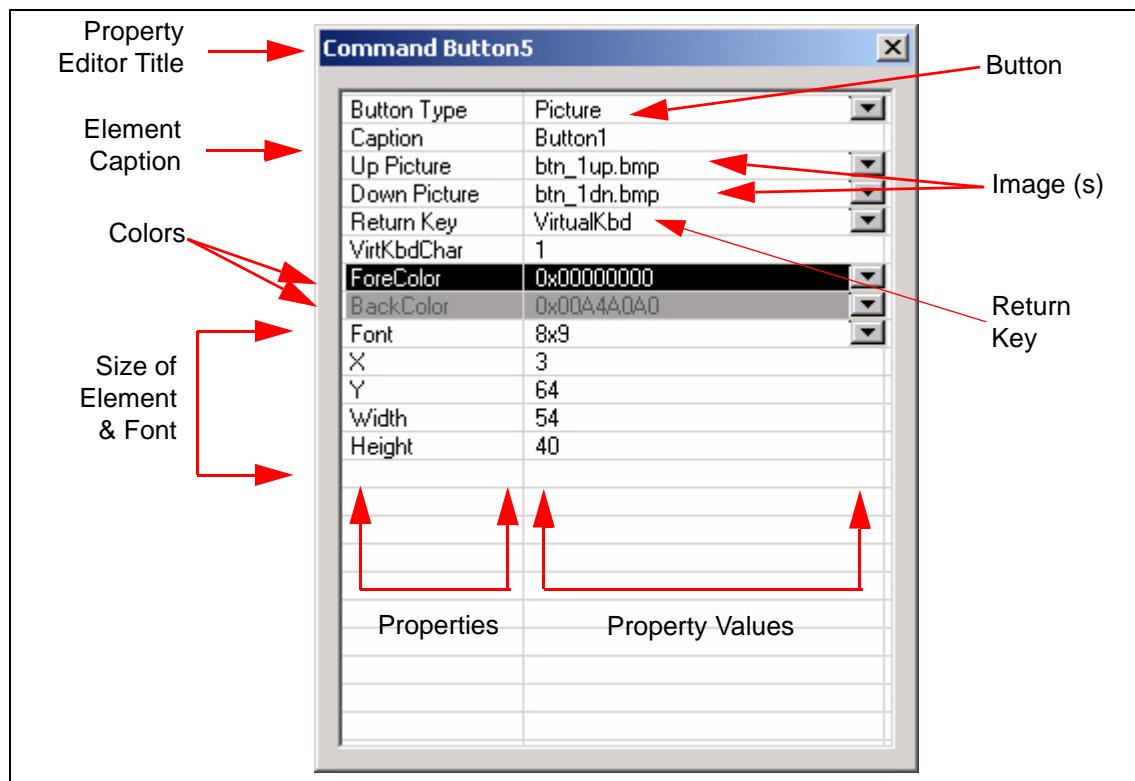

Figure 2-16 Command Button Properties Box
4. Double click the Command Button to open the properties box to configure the look and action of the button (Figure 2-16).